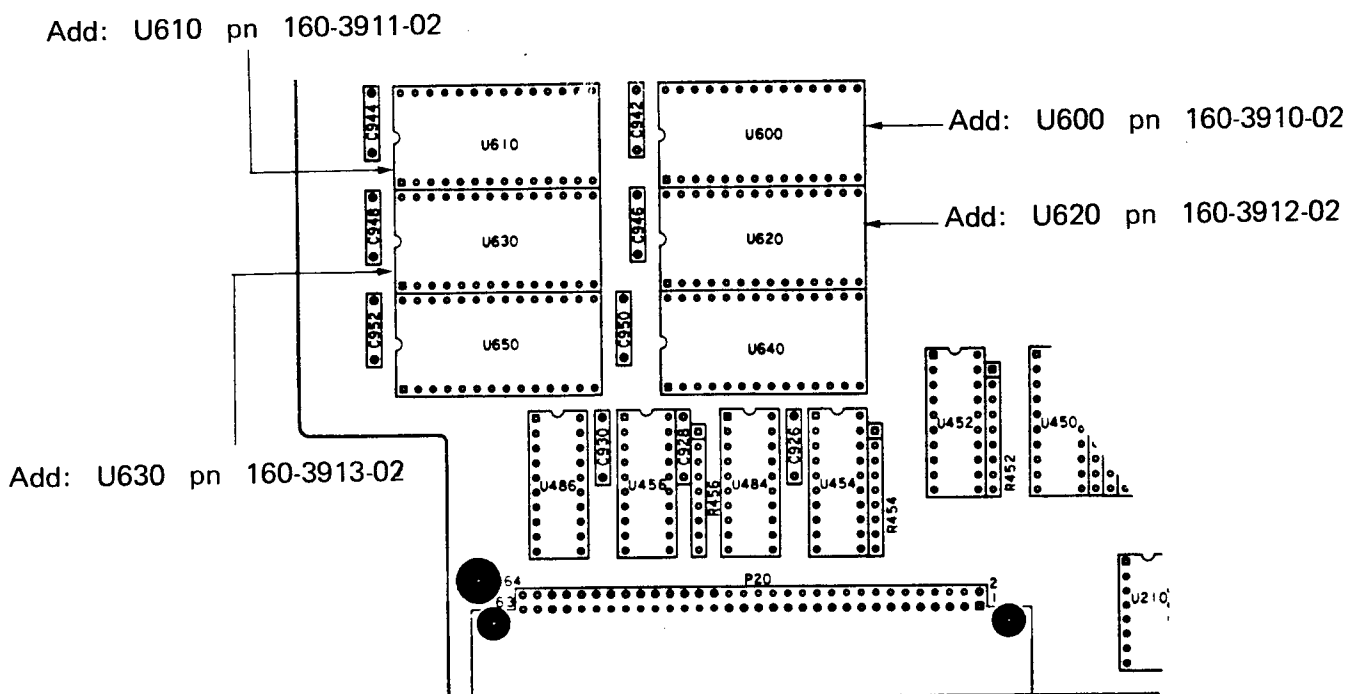

Figure 2. Partial - CPU circuit board A2.
- () 4. Remove U600, U610, U620 and U630 from the CPU circuit board A2, noting pin 1. Install the new microcircuits that are provided in this kit. Make sure pin 1 is in the correct position when installing each microcircuit (refer to figure 2).